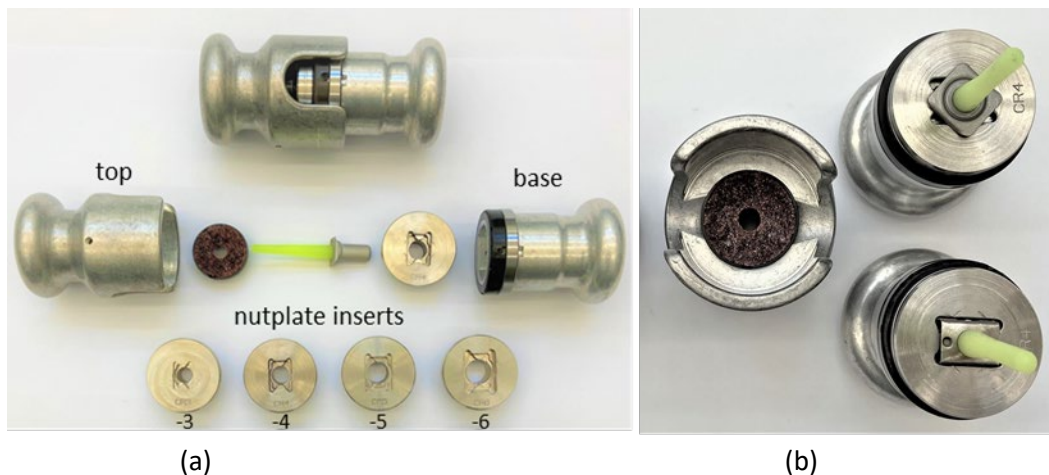

Figure 30. Nutplate Abrasion Tool (NAT) (a) Exploded view (b) Top view
3.3.2 Process for Preparation of Nutplates with Nutplate Abrasion Tool (NAT) (Figure 30 thru Figure 32)